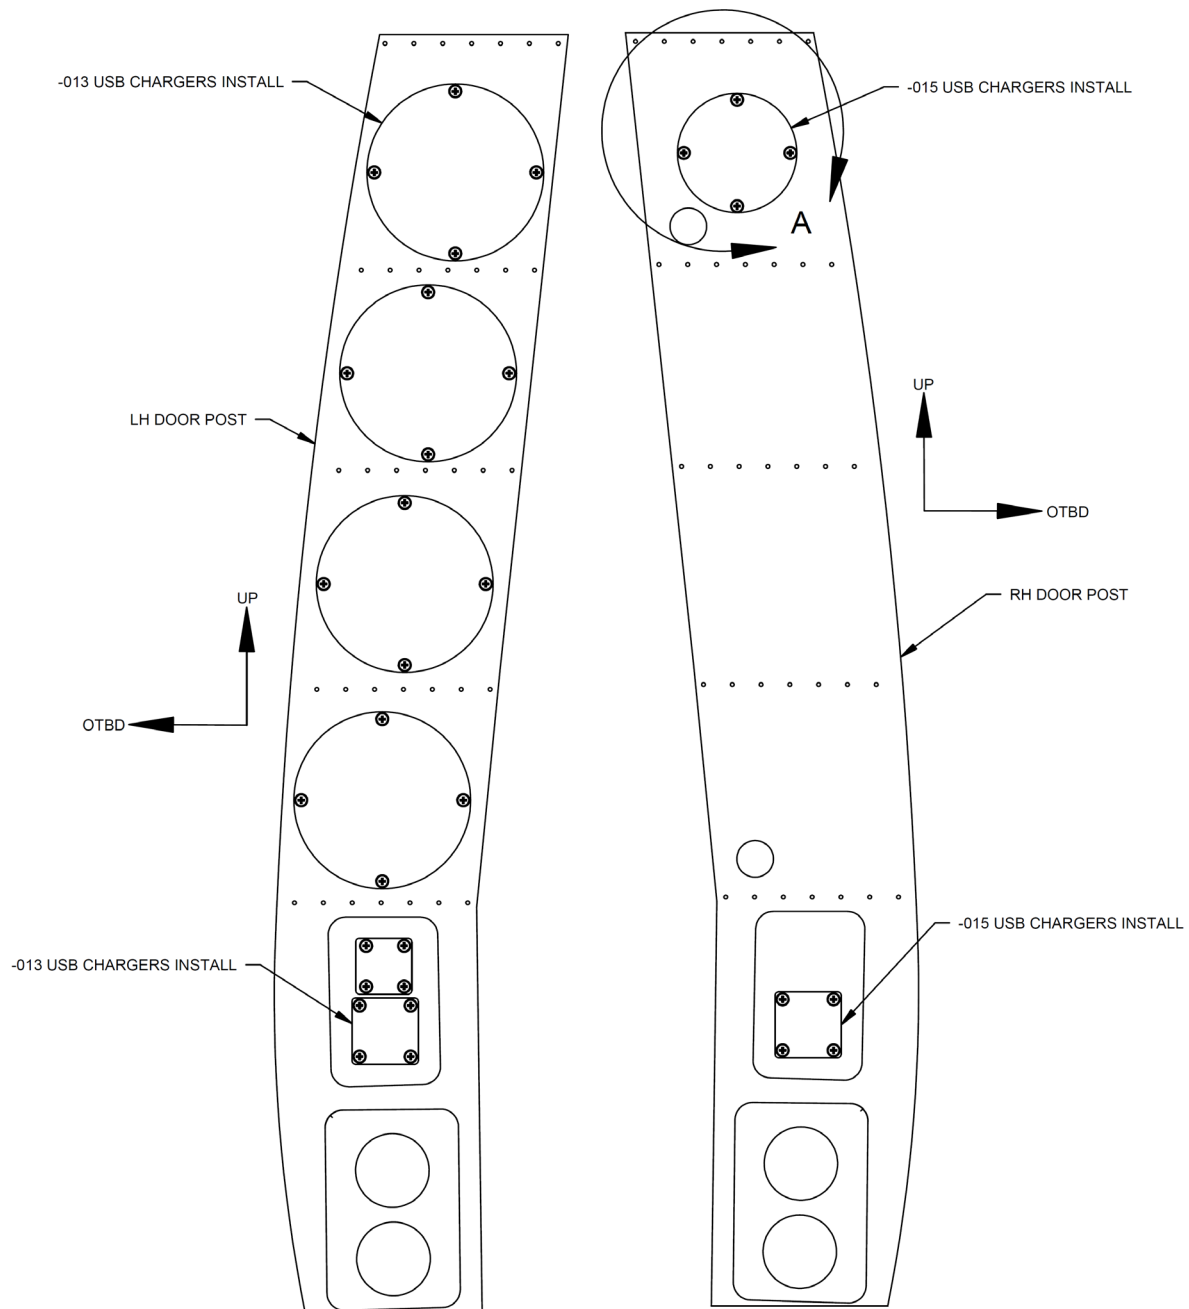

Figure 6 - (-013) and (-015) USB Chargers Installation
1. Modify the LH cover plates shown in Figure 6. Centre the USB cut out on the cover plate.
- a. Drill a Ø 1.88 inch hole in the centre of the door post location shown in Figure 6. Drill 4X Ø .177 holes in the locations shown in Figure 7. Install 4X MS21069L08 nutplates and 8X MS20426AD3 rivets.